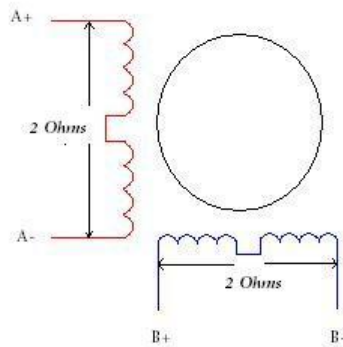

Fig 7 - Typical 8 wire Stepper motor
4. 8-wire motor (Serial Connected): In an 8-wire serially connected stepper motor the center tap wires need to be connected together. Then, connect one motor phase to A + and A – on the drive, and the other motor phase to B+ and B- on the drive. (Fig. 7)